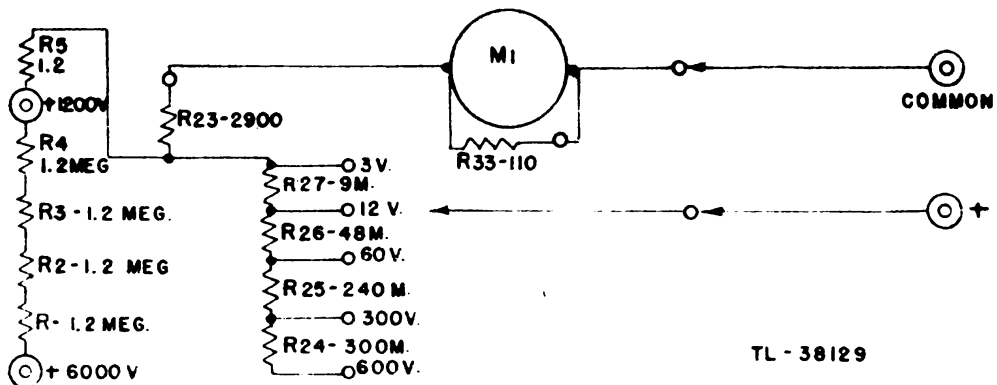

Figure 14. Test Set I-179, simplified D.C. volts circuit, 1,000 O.P.V.
18. TEST SET I-179 AS A D-C VOLTMETER, 1,000 OHMS PER VOLT (fig. 14).